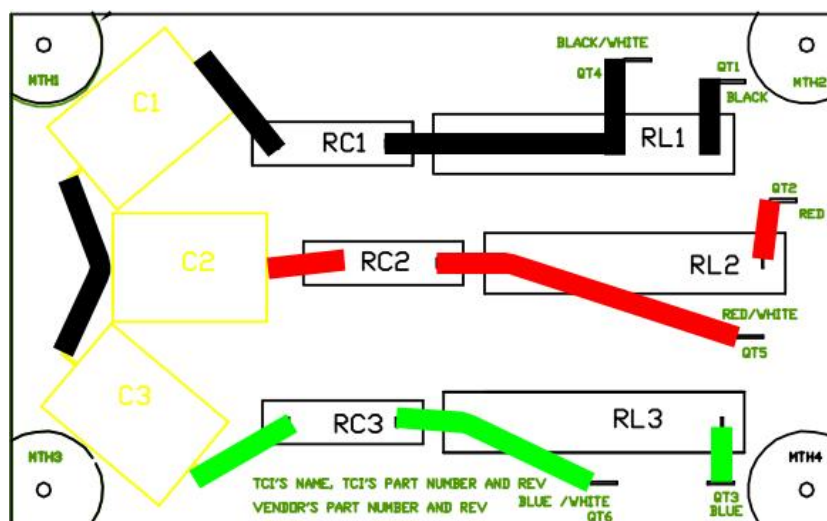

Figure 16- Typical V1K RC circuit board
4. With the RC board still removed, turn your Multimeter to read ohms (Ω) and measure the value across the 6 RC circuit board resistors, RL1, RL2, RL3, RC1, RC2, & RC3 (seen in Figure 16 below).
6. Turn your Multimeter to read capacitance and measure the value across C1, C2, & C3 (seen in Figure 16 below).